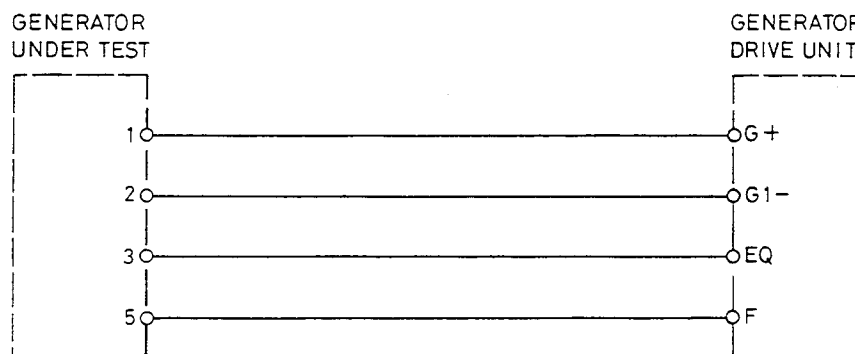

Fig 1 Generator to drive unit circuit diagram
5.5 Connect the generator to the test rig as shown in fig 1 using cable assembly (TE 2c).